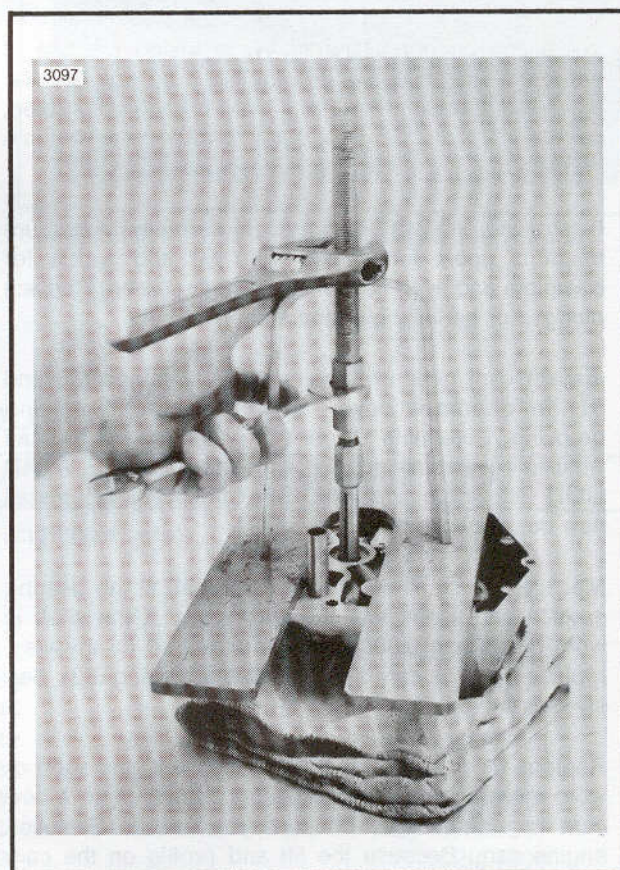

Figure 3-47. Remove Cover Bushing
1. See Figure 3-47. To remove old bushing, use PULLER TOOL, Part No. HD-95760-69 with a 0.500 in. collet.